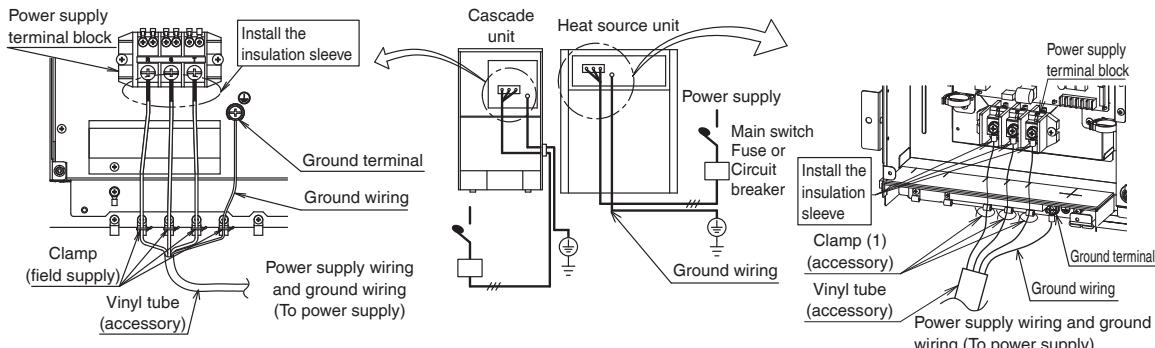

Fig. 24
- After connection, secure it using the clamps as shown in Fig. 24. Use the supplied clamps for the heat source unit and separately prepare clamps for the cascade unit.
- For the ground wiring for the heat source unit, use the attached clamp (1) to bind it to the power supply wiring following the procedure in Fig. 24 so that no external force is applied to the terminal.